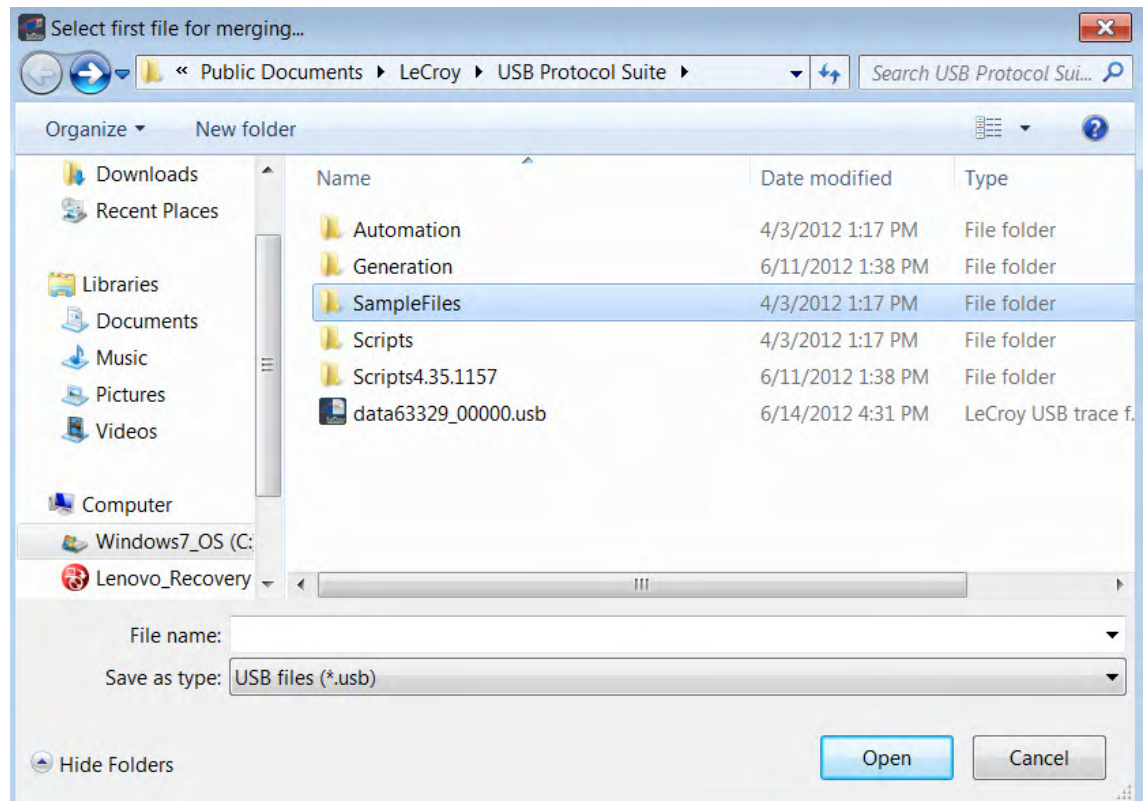

Figure 10.39: Select First File For merging Dialog.
1. Select **File > Merge Trace Files** to display a dialog box asking for the first source file (see Figure 10.39 on page 398).